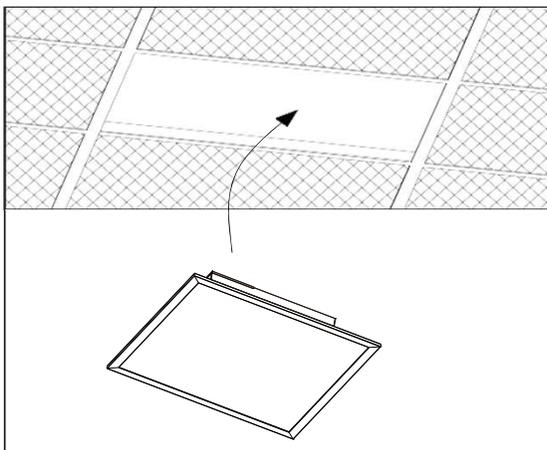

Figure 2
4. Fixture needs to pass through the grid at a 45- degree angle and the fixture needs to lay on the grid (Fig. 2)
2. Place the assembled drywall flange kit into the corresponding hole and secure it to the hole with the countersunk head self tapping screws. (Fig 2)